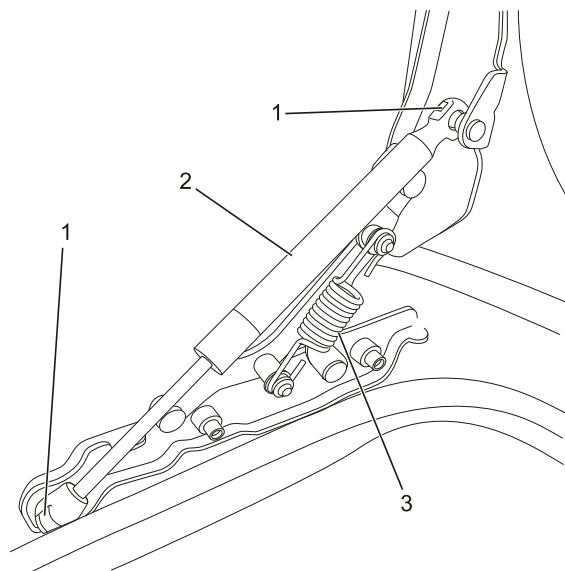

FIGURE 15
37. Remove the gas struts on the car one side at a time. Use a small screwdriver to release the gas strut retaining springs (1) and remove the gas strut (2). Fit the appropriate rated gas strut for the spoiler. Clip the replacement gas strut to the decklid hinge, ensure the gas strut has the telescopic end facing down.
38. Remove and replace the decklid hinge springs (3) with the appropriate rated springs. Refer to figure 15.